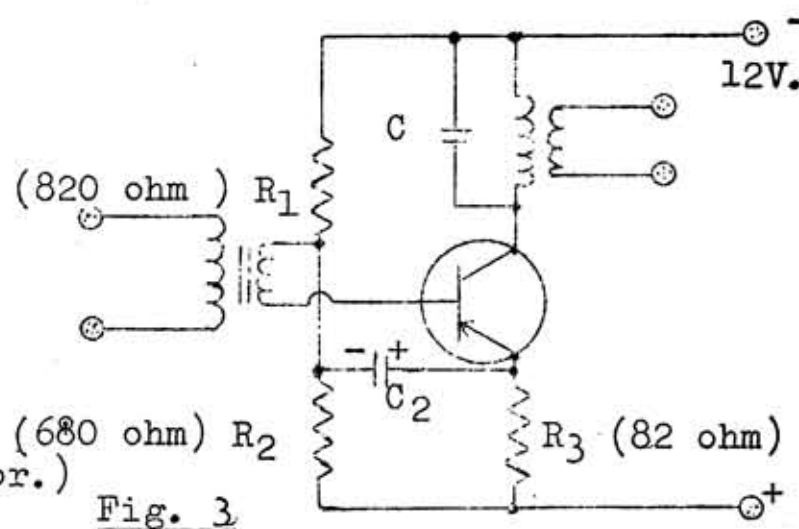

Fig. 3
EXAMPLE B. Reference Fig. 3. Power. From the values of  $R_1$  and  $R_2$  given, the base potential will be about  $12 \times 680/1500 = 5.4V$ , if base current is ignored. Now, for large power transistors, base-emitter junction voltage will be about 0.5V for germanium, or 0.8V for silicon. If we assume germanium in Fig. 3, emitter current is seen to be  $I_e = E_3/R_3 = (5.4 - 0.5)/82 = 60mA$ . Then the power dissipated by the transistor is approximately  $(12 - 4.9) \times 0.06 = 0.4Watts$ . From this we should be able to estimate that a general purpose medium power transistor of the OC30, 2N1038 type ought to suffice if ventilation is reasonably good. Or an OC26, 2N1042, 2N301, or 2N250 could be used without a heat sink.
Note in Fig. 3 that the emitter bypass condenser goes from emitter directly to the base circuit. This keeps the base bias constant and independent of signal, as it is supposed to do, but has the considerable advantage over a condenser across  $R_3$ , in that no additional condenser across  $R_2$  is also needed, and the voltage rating of  $C_2$  can be low indeed.  $C_2$  need be rated for the base-emitter junction voltage, and can be a 1000uF/2.5V unit, allowing reduction in space and cost. This trick is not usually possible, of course, with resistance coupling to the base - only with transformer coupling.
These suggestions are only rough and ready guides. At most they involve only Ohm's Law, and the basic amplifier formula, plus voltage dividers and common sense. In the end the same test has to be applied as grandmother used to test for bad eggs! In a circuit such as Fig. 3, if a replacement transistor consists of a unit of indeterminate power rating, the abovementioned adjustment of  $R_1$  could be made (viz for lowest distortion), but in testing the transistor for dissipation every so often, by touching it. If it feels uncomfortably hot, the current should be reduced appropriately. If you don't start with small currents first, however, you may have to finish up by retesting the transistor to make certain it is still good. If an operating current is found which gives half the voltage across  $R_3$  for Fig. 2, or which gives moderately warm operation of the transistor in Fig. 3 with adequate output quality, all is well.
It is possible to improve these circuits if the transistors are germanium, by adding a silicon diode in each of the emitter leads. Consider Figs 3 & 4. In these instances, the entire PUJT is treated as a unit, with an equivalent collector (Ec), equivalent emitter (EE) and equivalent base (EB)